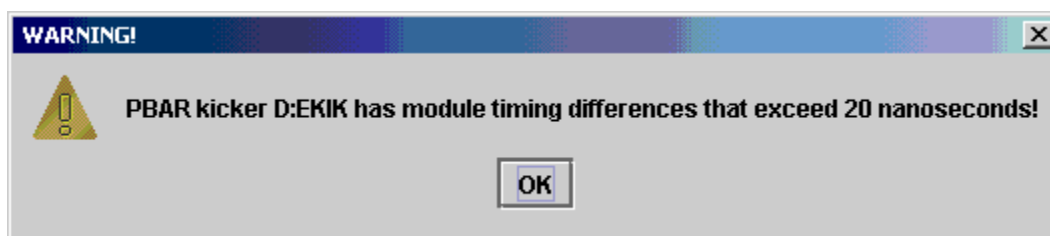

Figure 28: If one or more kickers need a timing change, then this popup window will appear. Click OK to view the results.
6. If any tuning changes are required, you will get a popup window, as shown in Figure 28, that states that D:EKIK has timing module differences that exceed 20 nanoseconds. If all of the kicker times are within 20 nanoseconds then skip ahead to Step 10 of this procedure.